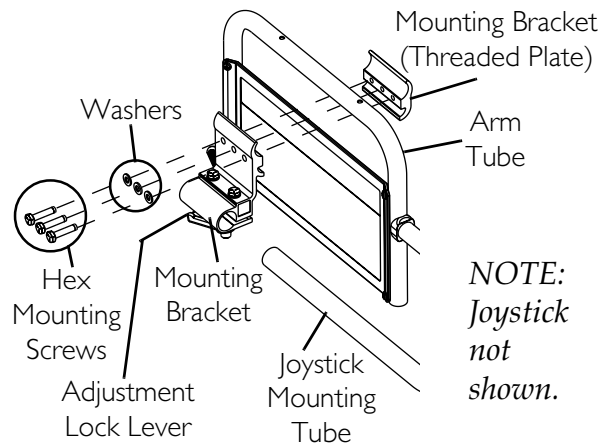

FIGURE 5.9 Repositioning the Joystick
NOTE: For this procedure, refer to FIGURE 5.9.
4. Reposition mounting bracket on opposite arm tube ensuring the threaded plate of the mounting bracket is on the inside of the arm tube as shown in FIGURE 5.9.